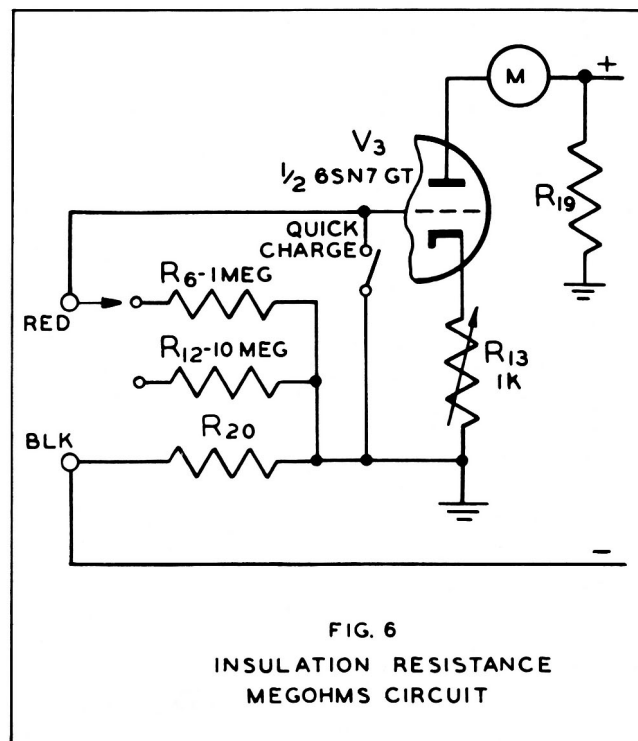

Figure 6. Insulation Resistance Test Circuit
a. **FUNCTIONAL DESCRIPTION.** The test circuit used for making insulation resistance measurements is shown in figure 6. The bias voltage on the grid of a triode is controlled by the leakage current through the component under test, thus controlling the flow of plate current through the tube. A milliammeter in the plate circuit of the triode reads the change in plate current. The meter is calibrated to read directly in megohms.